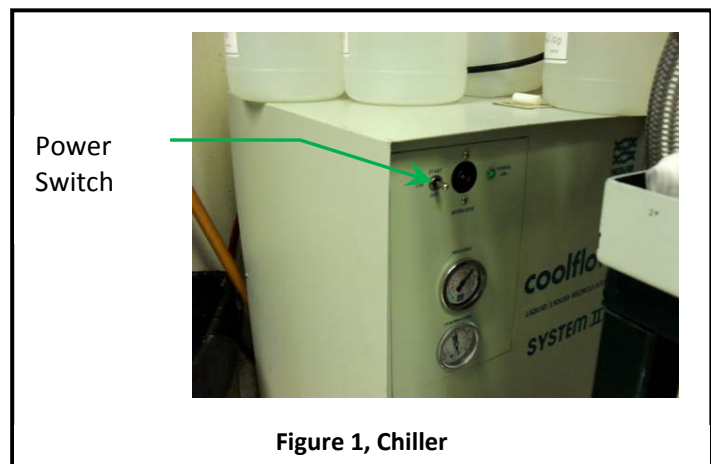

Figure 1, Chiller
- 6.6.2 Turn the power switch to start on the chiller. See *Figure 1, Chiller*.